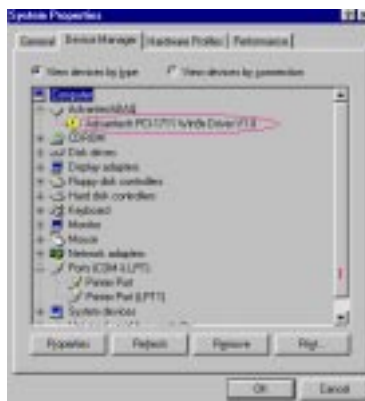

Fig. 2-4 The “exclamation mark” (!) on the device name indicating improper installation of the card
- ✎ If your card is properly installed, you should see the *device name* of your card listed on the *Device Manager* tab. **If you do see your device name listed on it but marked with an exclamation sign “!” (Fig. 2-4), it means your card has not been correctly installed.** In this case, remove the card device from the *Device Manager* by selecting its device name and press the **Remove** button. Then go through the driver installation process again.